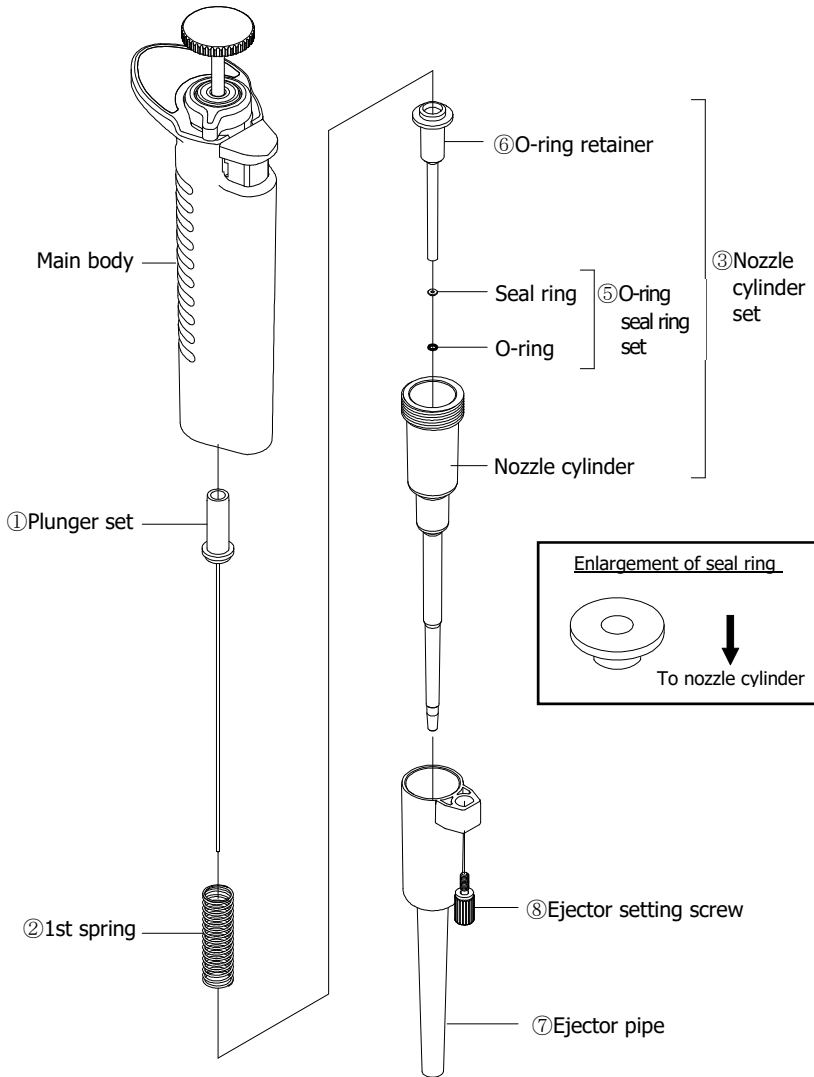
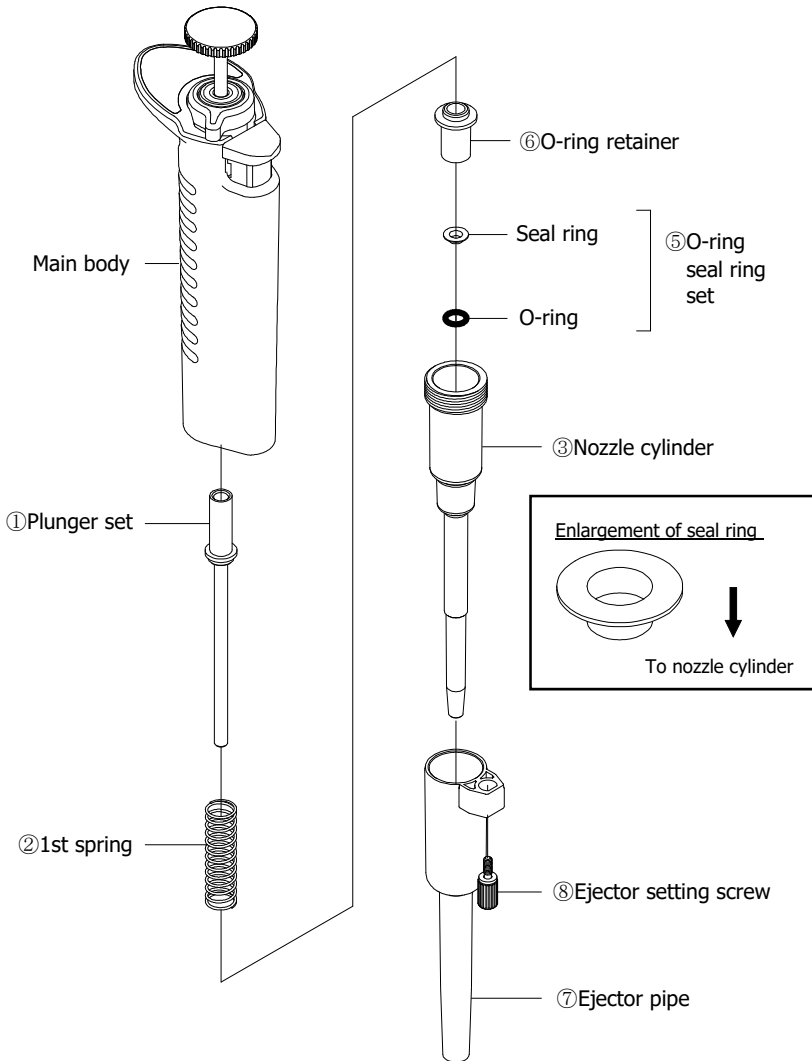

Fig. G1
Fig. G2
- 3) Disassemble the internal parts as shown in; (Fig. G1) for Models: 2 μ L, 10 μ L and 20 μ L, (Fig. G2) for Models: 100 μ L and 200 μ L, and (Fig. G3) for the Model: 1000 μ L.
- For models: 2 μ L, 10 μ L, 20 μ L (Fig. G1), 100 μ L and 200 μ L (Fig. G2), 1000 μ L (Fig. G3)
- Models: 2 μ L, 10 μ L, 20 μ L (Fig G1), 100 μ L and 200 μ L (Fig. G2), 1000 μ L (Fig. G3)
Circled Numbers in (Fig. G1) corresponds to Parts Numbers in the replacement parts list.
Circled Numbers in (Fig. G2) corresponds to Parts Numbers in the replacement parts list.